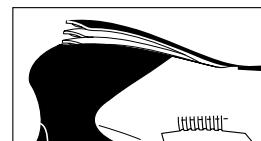

Figure 4
2. Intermediate speeds between Zero (0)/min (RPM) and the set MaximumSpeed can be used with intermediate Lever positions. - see *figure 4*